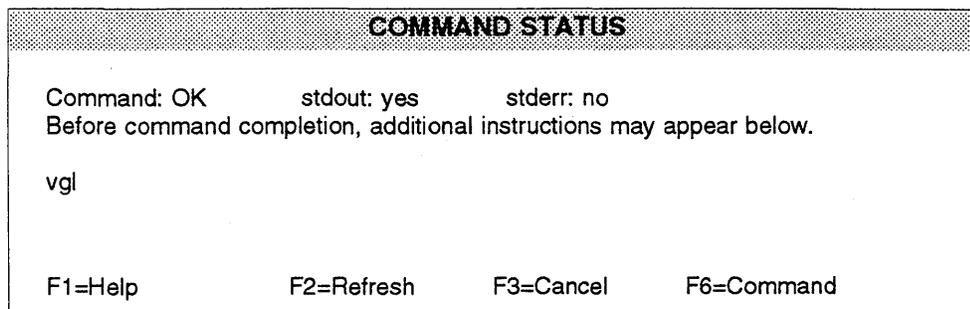

Figure 4-13: Command Status Menu
- 7 Press [ENTER] again and the menu will appear as shown in Figure 4-13.